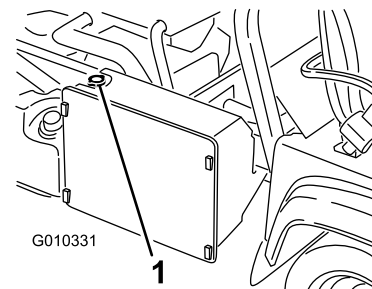

Figure 70
3. Remove the radiator cap (**Figure 70**).
4. Remove the reserve-tank cap (**Figure 70**).
7. Top off the radiator and install the cap (Figure 70).